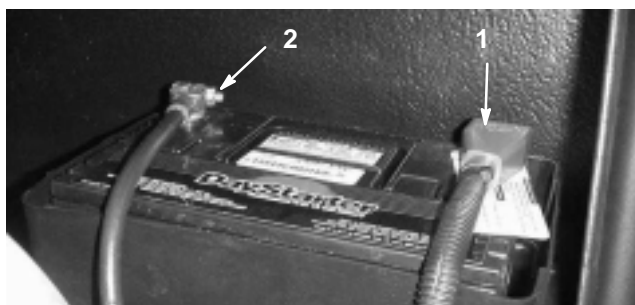

Figure 53
5. Install the positive cable (red) to the positive (+) terminal and the negative cable (black) to the negative (—) terminal of the battery (Fig 53). Secure cables to posts with capscrews and nuts. Make sure that the positive (+) terminal is all of the way onto the post and the cable is positioned snug to the battery. The cable must not contact the battery cover. Slide the rubber boot over the positive terminal to prevent a possible short from occurring.